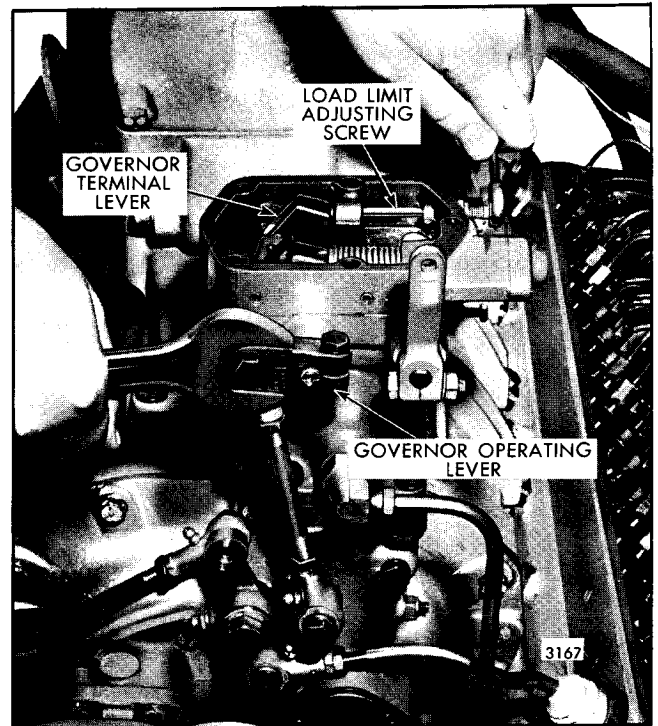

Fig. 6 - Adjusting Load Limit Screw
1. With the governor cover off and the load limit screw lock nut loosened, place and retain the governor operating lever in the FULL-FUEL position as shown in Fig. 6.